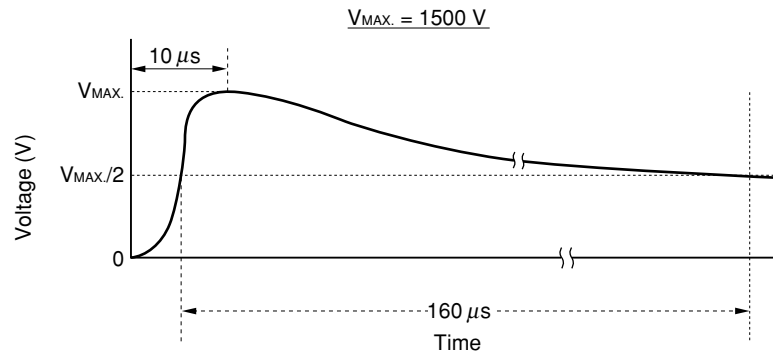

Figure 3.10 Surge Voltage Waveform
The EA2 series relay can withstand even if the surge voltage shown in Figure 3.10 is applied (1) between opening contacts, (2) between coil and contact, or (3) between adjacent contacts.
If a lightning surge is applied between the closed contacts, a current whose value is determined by the impedance of the route connected to the contacts may flow. This current may be referred to as a “surge current”, and Figure 3.10 and Table 3.3 show the resistance of the EA2 series relay to the surge current. Figure 3.10 shows the waveform of the applied surge current. Table 3.3 shows the values of the current the relay can withstand. The relay is damaged by burning and malfunctions when a current higher than 220 A is applied to it.